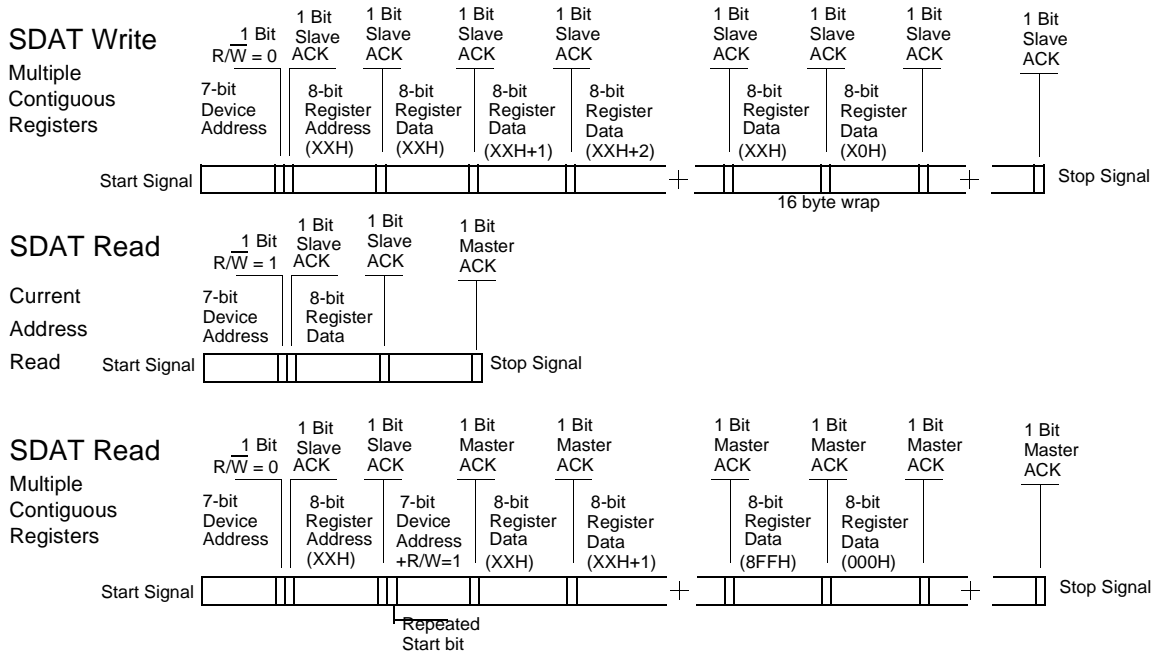

Figure 4. Data Frame Architecture
Start Bit; 7-bit Device Address (DA); $\overline{R/W}$ Bit; Slave Clock Acknowledge (ACK); 8-bit Memory Address (MA); ACK; 8-bit Data; ACK; 8-bit Data in MA+1 if desired; ACK; 8-bit Data in MA+2; ACK; etc. until STOP Bit. The basic serial format is illustrated in *Figure 4*.